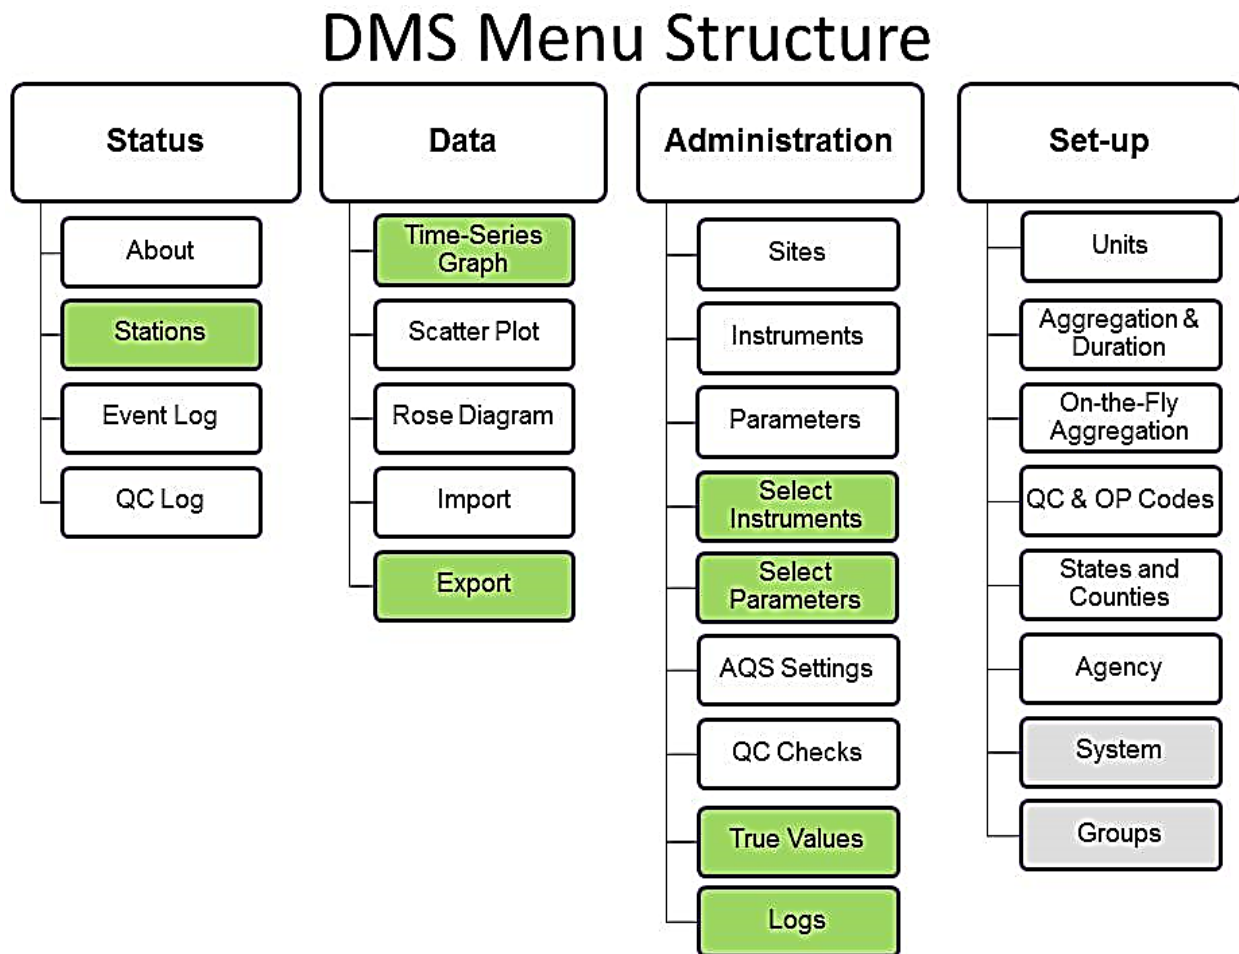

Figure 4.1. DMS Menu Tree
**Figure 4.1 below is an overview of the DMS menu structure. Green menus** denote functions most frequently used by AQSB users, while **gray** menus denote functions reserved for DMS administrators only; regular users will not see gray menus on their DMS display.